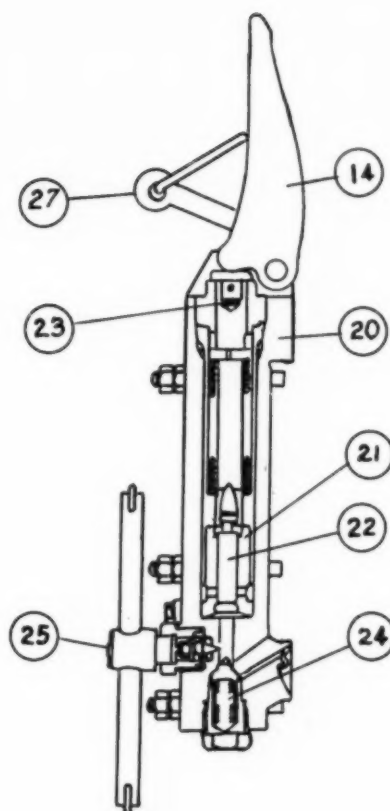

Figure 3. (left) Fuel injection pump is actuated by piston on its downstroke by means of cam lever.
The fuel injection pump, Fig. 3, comprises a forged body (20), barrel (21), plunger (22), tappet (23), delivery valve (24), by pass valve (25), and cam lever (14). The cam lever protrudes, through a slot machined in the cylinder wall, into the cylinder and engages with the piston; in operation the piston, on its downstroke, actuates cam